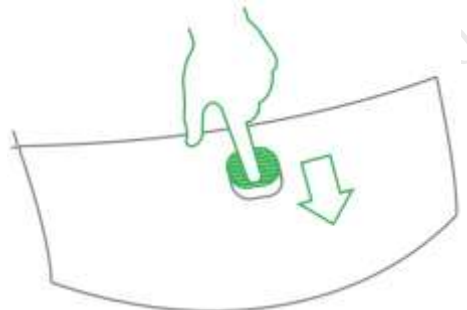

Figure 3-17
Step 1 Move the button on the cover and then open the battery cover, as shown in Figure 3-17.